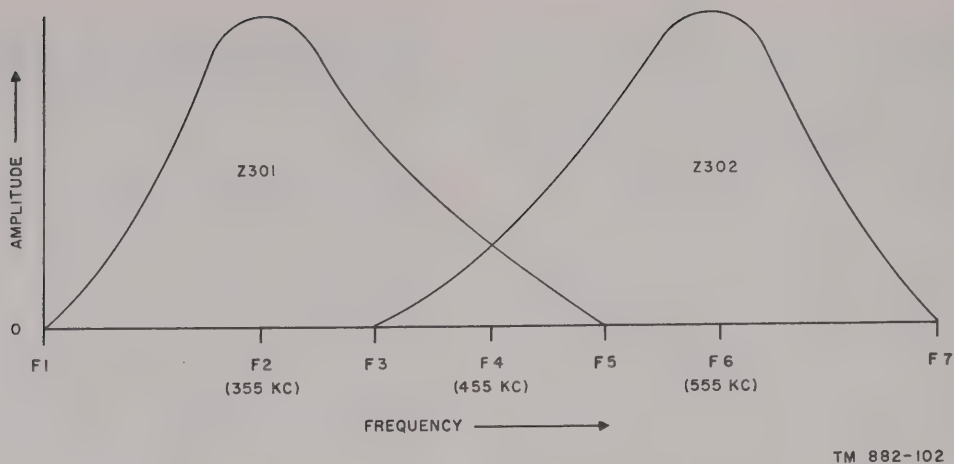

Figure 56. Signal voltage developed across Z301 and Z302.
d. Response Curves (fig. 56). Since the two tuned circuits Z301 and Z302 are peaked to different frequencies, their response to the frequencies from the limiter stage will be different. When the response of these two circuits is plotted in terms of frequency, as in figure 56, it is noted that only at one frequency, namely 455 kc, is the response of both circuits the same. At all other frequencies the response of Z301 is different from that of Z302, with the result that the magnitude of signal voltage fed to the two rectifiers for rectification depends upon the response of the circuit to the frequency of the signal voltage. An important point to remember is that at any one instant only one frequency exists in the system, and whether V311A or V311B or both will be rectifying the signal depends entirely upon the frequency of the signal voltage. Thus, if at any one instant the frequency of the signal is 355 kc, the circuit which responds to this frequency is Z301, and rectification will take place in V311A, the rectified voltage appearing across C354. This is true for all frequencies from F1 to F3. Between F3 and F5, both tubes are operating and a differential voltage is developed across C354 and C355. At exactly 455 kc (F4), the signal applied to each diode will be of the same amplitude, both diodes will conduct, and C354 and C355 are both charged to the same potential. This is the condition when there is no modulation. Between F5 and F7, only Z302 is responsive and the signal is being rectified in V311B, the rectified voltage appearing across C355. Again considering instantaneous conditions, when the frequency of the carrier goes up, due to modulation, the amplitude of the signal in Z302 will increase because of the response characteristics of Z302 as the signal approaches its resonant frequency. At the same time, the signal in Z301 will decrease because the signal frequency is farther away from the resonant frequency of Z301. This greater amplitude signal in Z302 will cause V311B to conduct more than it did when the signal frequency was 455 kc, and will charge C355 to a higher potential. At the same time, the weaker signal in Z301 will cause V311A to conduct less, and C354 will be charged